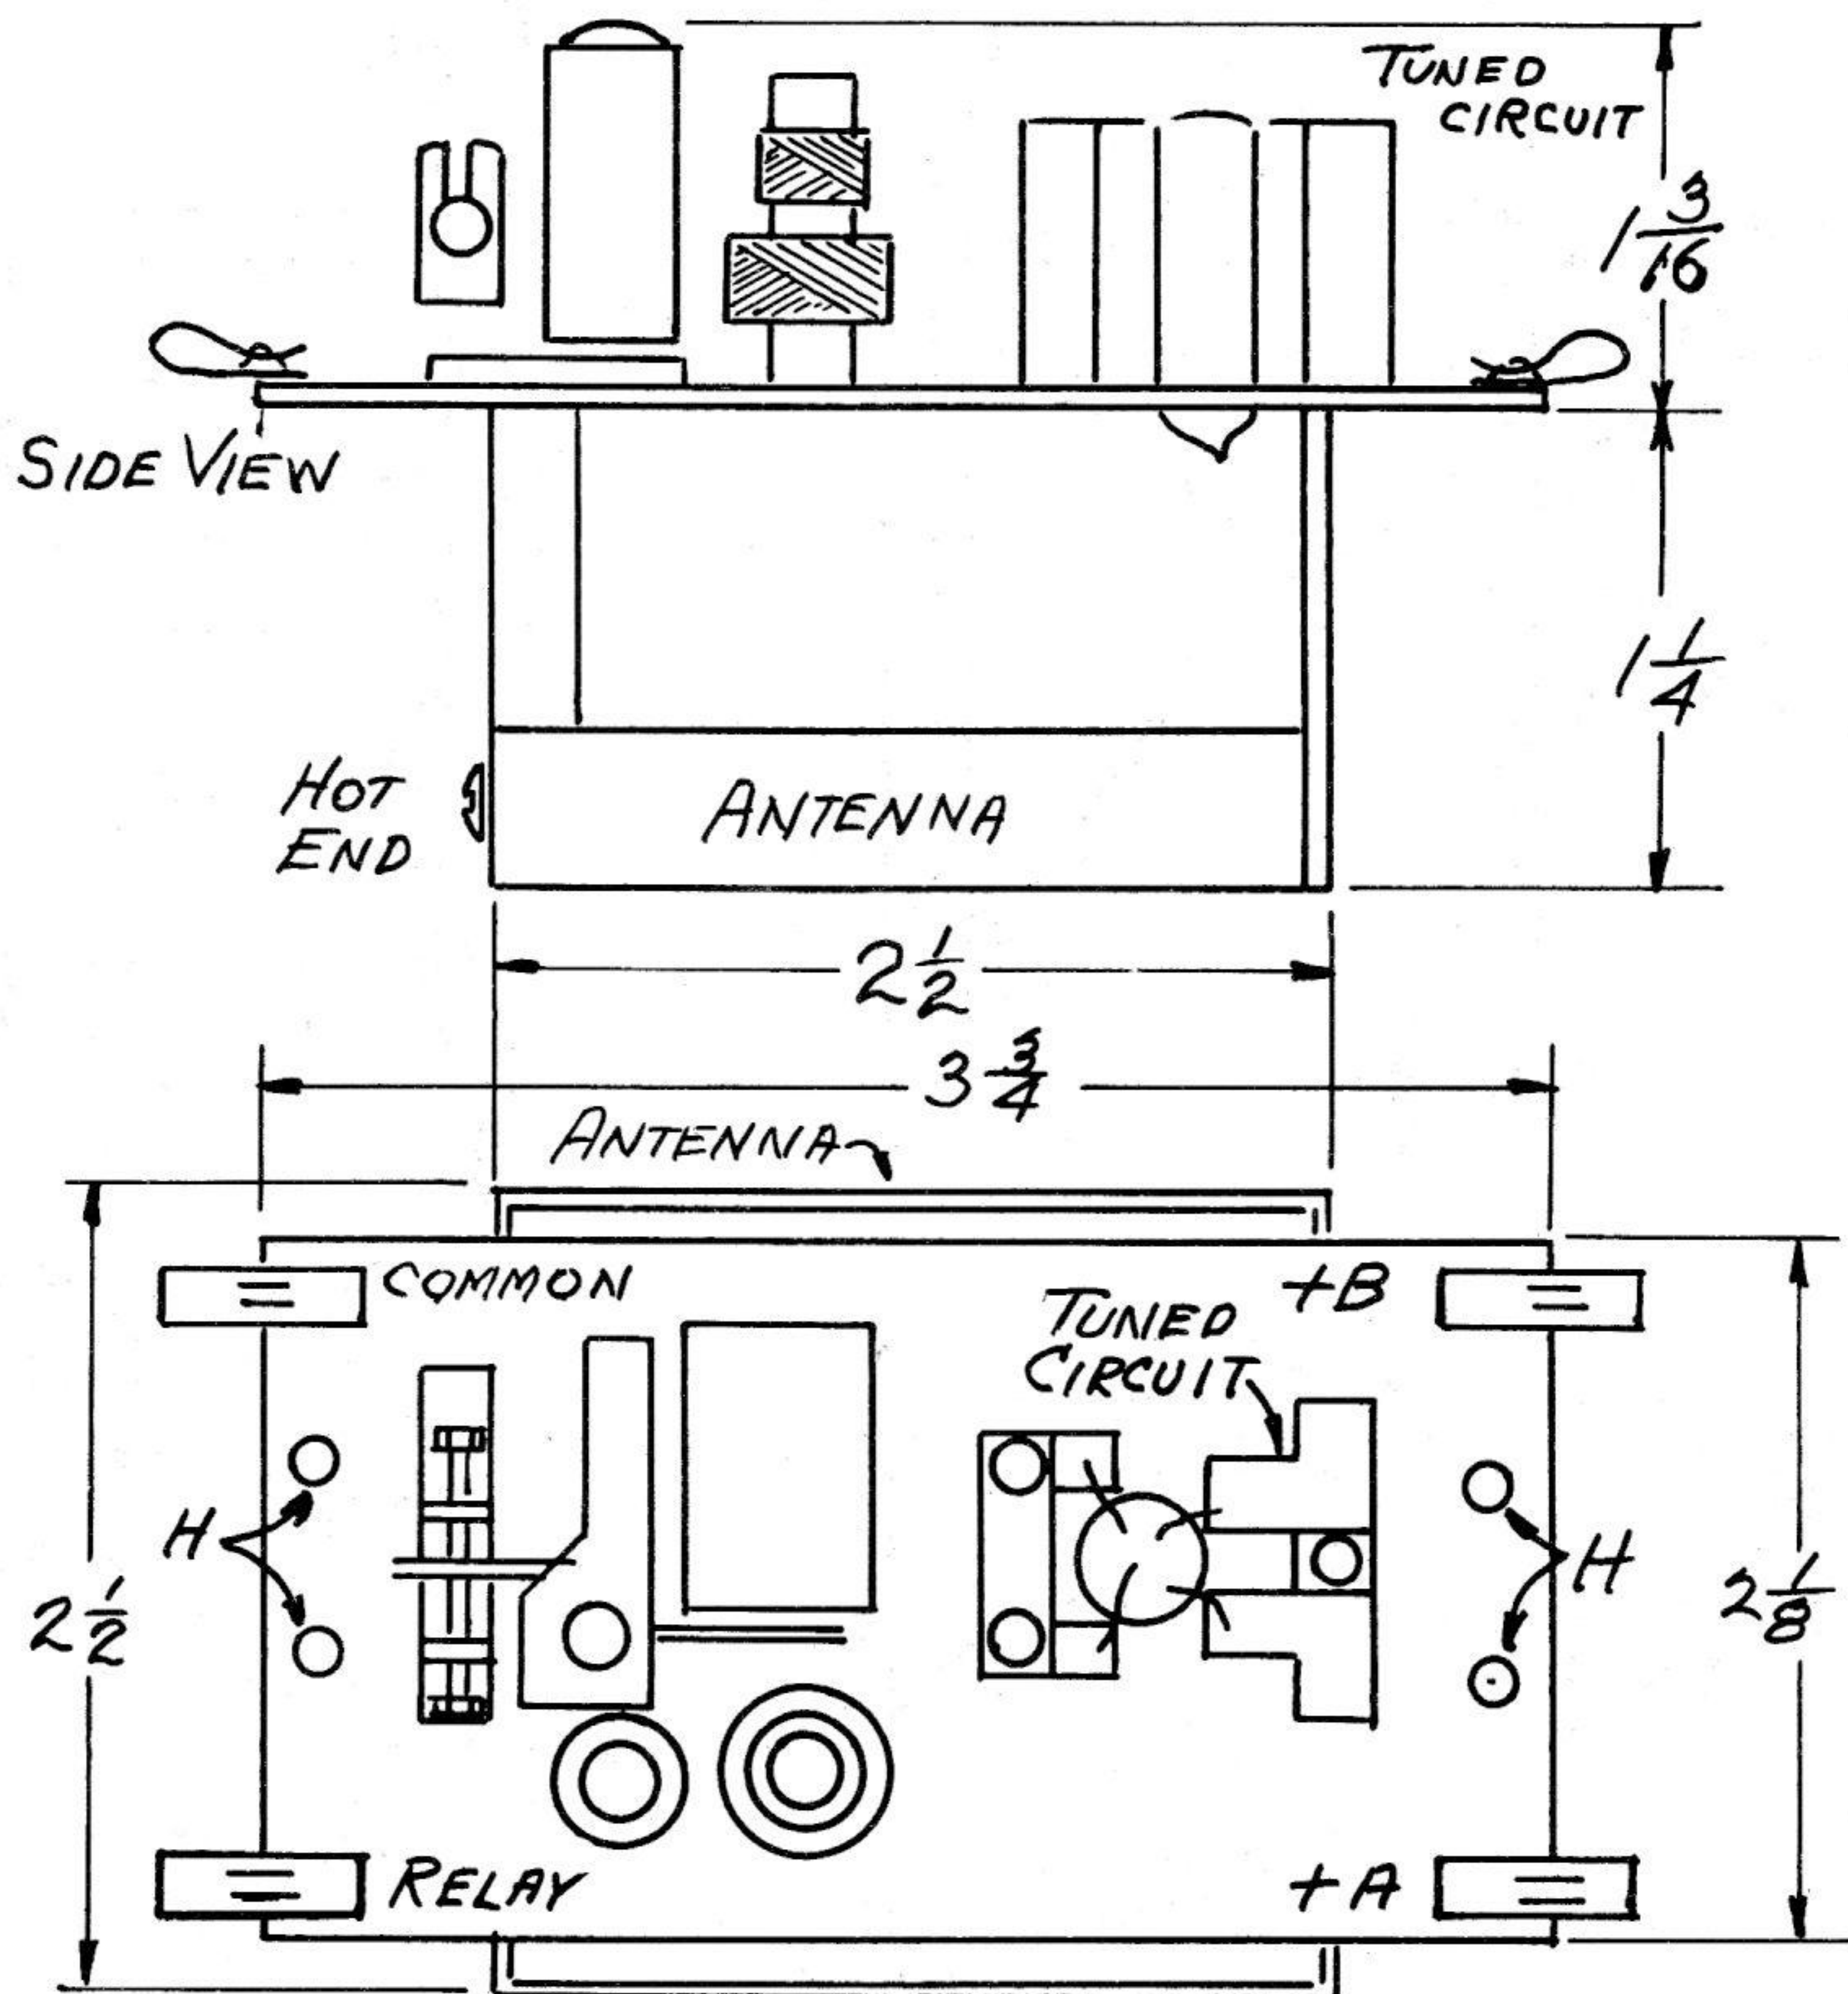

FIG 1
Unpack your Citizen-Ship receiver carefully. Handle it ONLY by the edges of the bakelite base. DO NOT pick it up by the antenna which is the aluminum square below the base, or by any of the parts above the base. Deforming the antenna or tuned circuit (see side view drawing, Figure 1), will reduce its sensitivity. It may be set down carefully on the antenna.
2.1 Recommended mounting is by means of #16 rubber bands through the loops of the Fahnstock clips on both ends of the base. (Figure 2.) Holes HH (Figure 1) are provided if the modeler wishes to put an extension (preferably bakelite) onto the chassis to allow mounting with sponge rubber blocks. Also additional rubber bands may be threaded through holes HH for additional support in the event of a crash. Suggest cementing a piece of sponge rubber to bulkhead or any structure in FRONT of receiver. In case of crash landing, receiver will be cushioned by this rubber.
2.2 Keep everything, including lead wires and EVEN balsa wood supports, at least two inches from HOT end of the antenna. This HOT end is the end with the gap and adjusting screw. (Refer to Figure 1). The sides of the fuselage will be closer to the sides of the antenna, and this should be 1/2" MINIMUM. Before mounting batteries permanently, see Section 7.0 on ignition interference.
5.3 The wires from both the "A" batteries and "B" batteries should go to the similarly designated connections on the receiver. Top view (Figures 1 and 6.) It will be noticed that one terminal (Fahnstock clip) of the receiver is marked "Common". Since it is difficult to put more